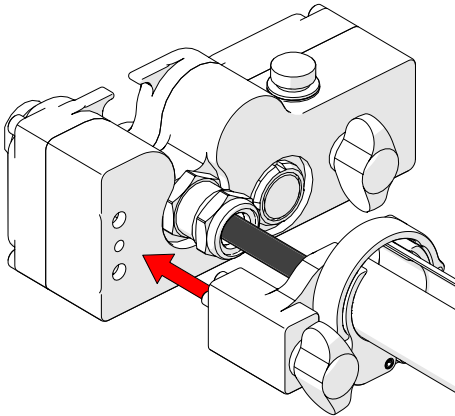

Fig. 241 - Align with umbilical
1. Align the zipper tube clamp with the appropriate mounting position on the user umbilical breakout (*Fig. 241*).